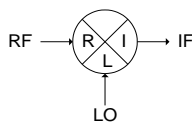

Figure 2. Frequency conversion stage using a mixer.
Fundamentally, each conversion stage consists of a frequency mixer that mixes two input signals and produces a wanted third. The *wanted* third component is selected via a frequency filter among other signals generated in the mixing process. The three primary components of the signals in each conversion mixer are commonly known as the local oscillator (LO), radio frequency (RF), and the intermediate frequency (IF) as shown in Figure 2.